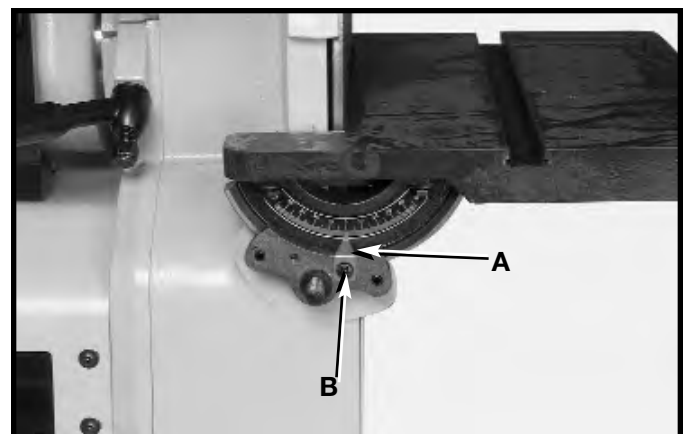

Fig. 13B
6. Remove the disc table trunnion knob (C) from the side of the machine where there is a scale on the trunnion. Attach the pointer (A) Fig. 13B to the hole (B) on the disc table trunnion clamp.